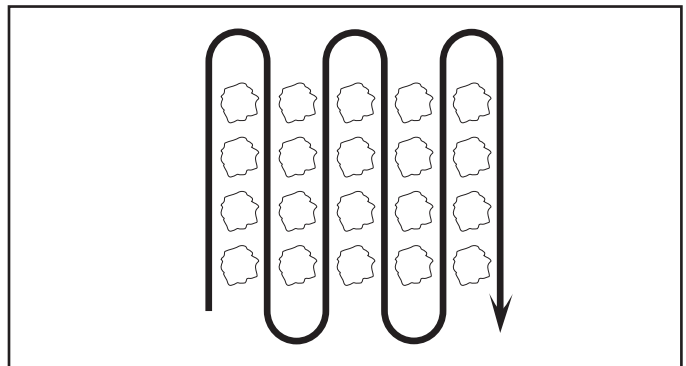

Fig. 10
- Cultivate up and down the rows at a speed which will allow tines to uproot weeds and leave the ground in rough condition, promoting no further growth of weeds and grass (See Fig. 10).
Use only high quality detergent oil rated with API service classification SF-SJ. Select the oil's SAE viscosity grade according to your expected temperature. (See Fig. 10)